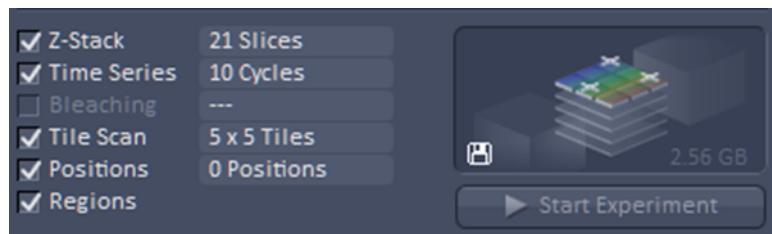

**Fig. 73** Action buttons – Snap button active
**Snap** produces one single image using all active channels and tracks thereby ignoring the parameters activated in the multidimensional acquisition tool group, but taking into account the imaging mode. **Snap** can be disrupted by pressing the **Stop** button into which the **Snap** button changes upon activation (Fig. 73).